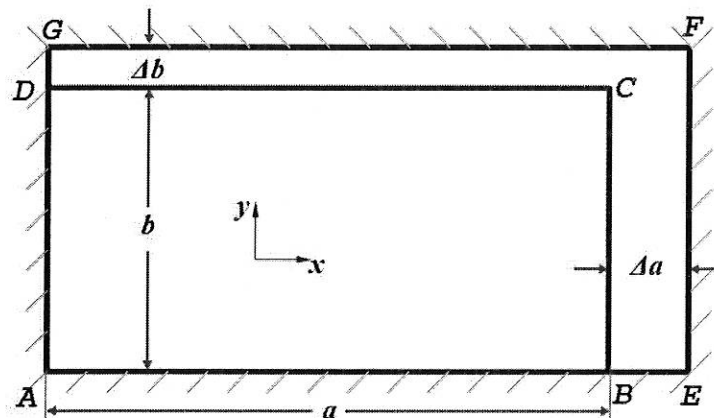

Figure 2
Q.2. Figure 2 shows an elastic plate ABCD lying in x - y plane and confined in an enclosure AEGF with rigid boundaries. The plate and enclosure is infinitely long in the z -direction. Initially the plate is stress-free and at a temperature of 0°C . Plate ABCD is made up of elastic material with Young's modulus E , Poisson's ratio ν and coefficient of thermal expansion α . Plate is uniformly heated to temperature ΔT and not subjected to any form of mechanical loading.